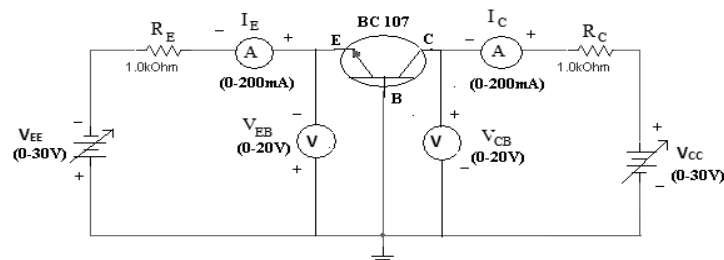

Figure 3: Circuit diagram of BJT in CB mode
1. Connect the circuit as shown in figure 3.